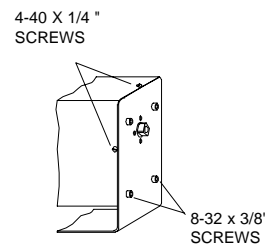

Figure 13: Bracket and cover screws
2. **Unplug the actuator.** Use a 9/64 hex driver to remove the four HWSC-SC8-6/screws (8-32 x 3/8") which hold the black right angle mounting bracket to the actuator body. (See **Figure 13**)
2. **Unplug the actuator.** Use a 9/64 hex driver to remove the four HWSC-SC8-6/screws (8-32 x 3/8") which hold the black right-angle mounting bracket to the actuator. (**Figure 13**)